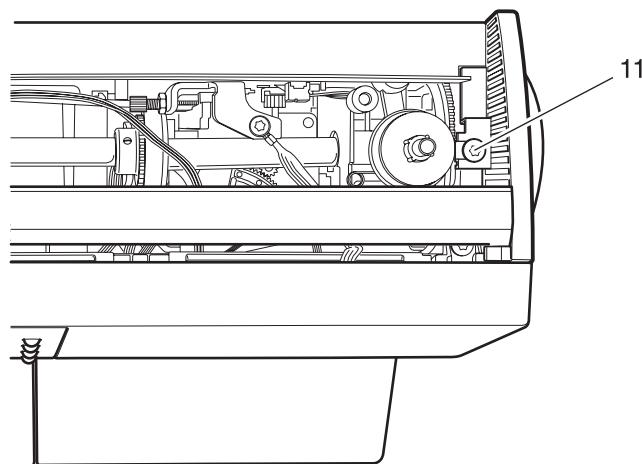

Fig. 90
- Remove screw 11 from the stand lid (fig. 90).